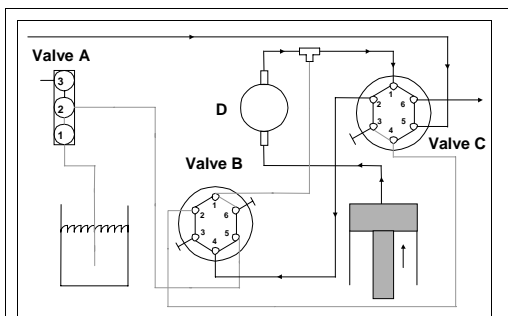

Figure 4.33: TLD Pre-Pressurize (Gradient Delivery)
Figure 4.33 shows the flow schematic of the TLD pre-pressurizing. Valve B is connected on ports 3 and 4 and valve C is connected on ports 1 and 2. As the syringe piston moves forward, fluid is pushed through the lines connecting the syringe to the pressure transducer (D) and port 1 of valve C. The fluid moves through the line connecting port 2 of valve C and port 4 of valve B. Since port 3 of valve B is plugged, the system is delivering to a dead head.